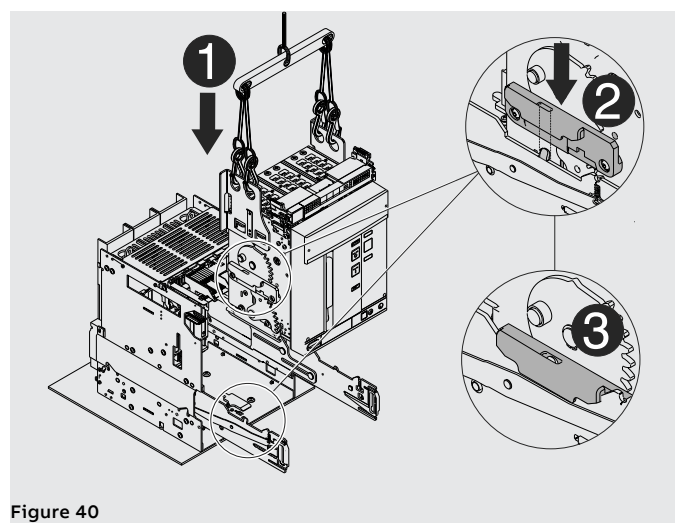

Figure 40
4. Position the moving part on the guides of the fixed part. Latch by inserting the hollow part of the side in the latch of the guide of the fixed part. See Figure 40.